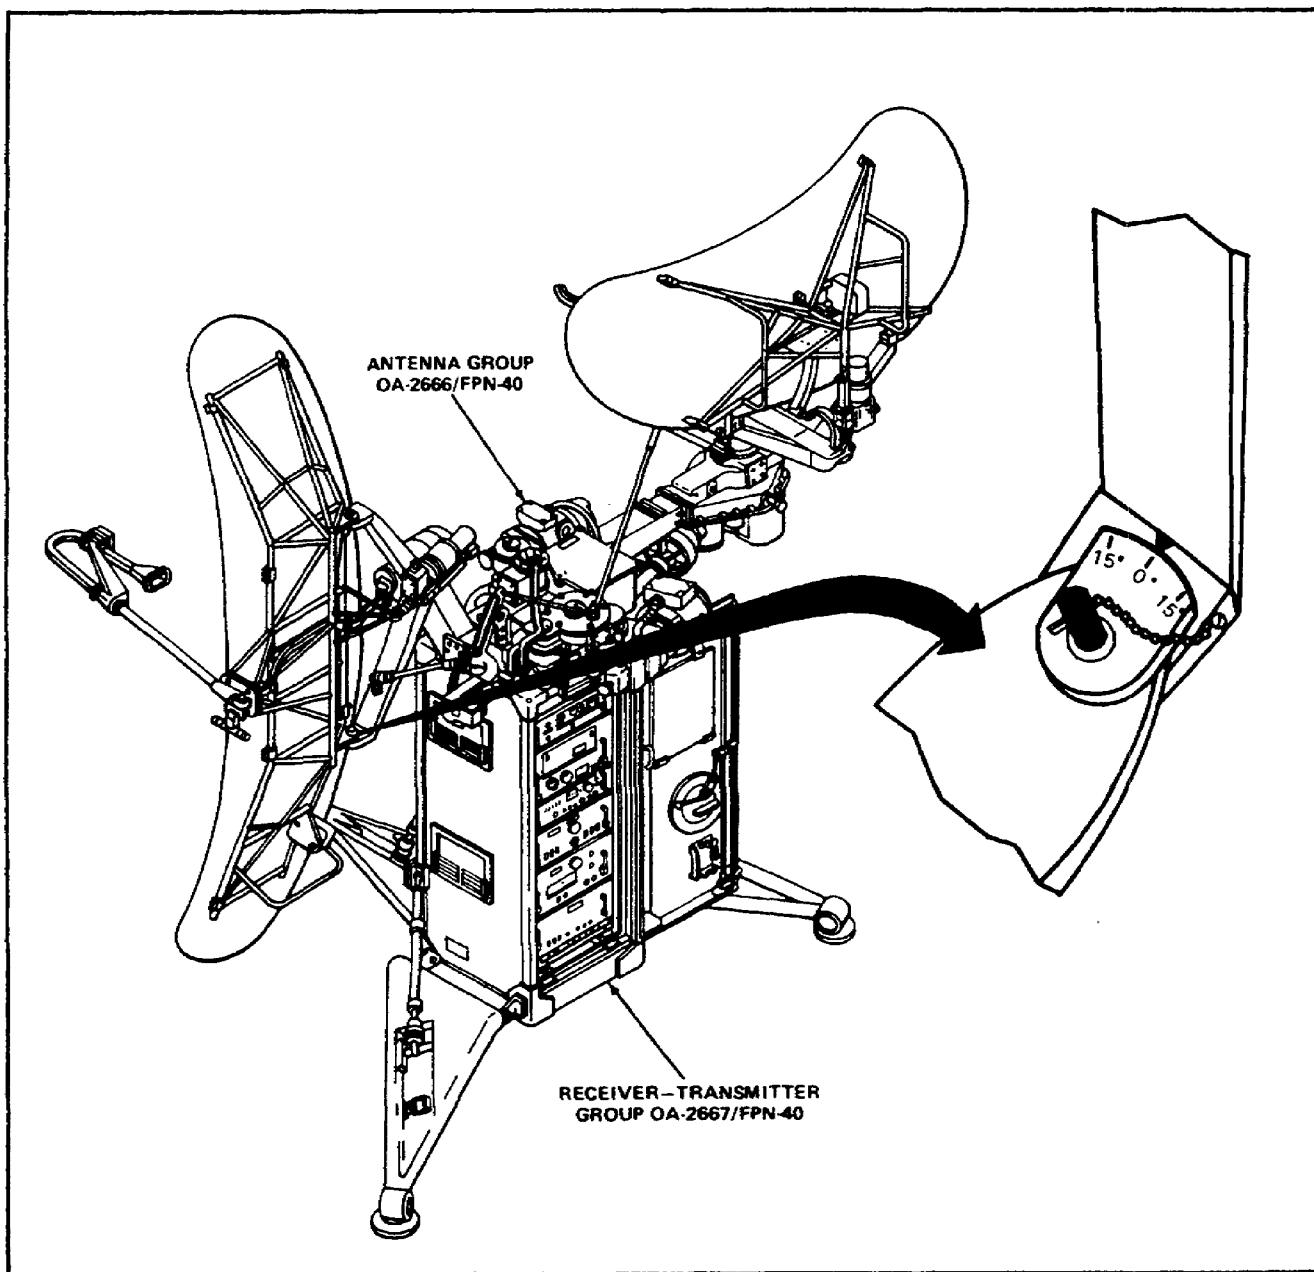

Figure 27. AS-1080/FPN-40.
d. Locate the elevation servo protractor on the elevation antenna AS-1080/FPN-40. (See Figure 27.)
- Elevation servo protractor (Figure 27)